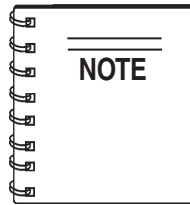

**Figure 18. Travel Lever**
2. To make the compactor travel forwards, push the travel lever forward (Figure 18). To make the compactor travel backward, pull the travel lever back (Figure 18).